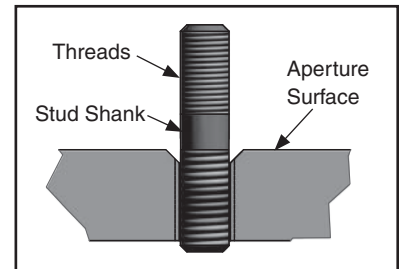

Figure 4
4. Install the studs until the shoulder of the stud is flush with the transmission mounting surface. DO NOT install studs with shank below the aperture surface. Install studs with hand tools. DO NOT use power tools to install studs (**Fig. 4**).